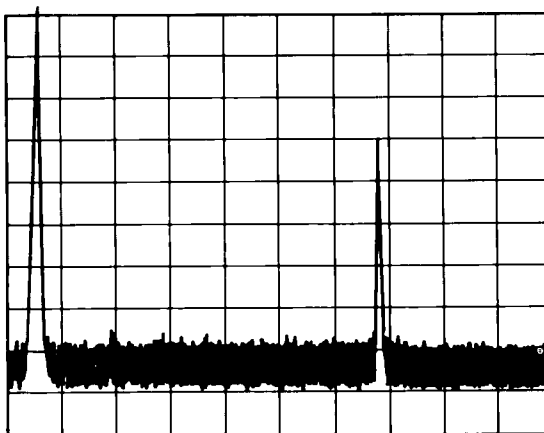

Figure 5-60. Squegging Displayed on Spectrum Analyzer
41. Using the [▲] key on both the DUT and the LO, step through Band 2 observing the spectrum analyzer display at each step. There may be signals due to mixing products, and/or squegging. Mixing products will appear as low level signals. Squegging signals will appear as a higher amplitude signal as shown in Figure 5-60. If squegging occurs, adjust A24R5 (X2C) slightly CCW to eliminate the squegging. Note, if the control is adjusted and there is no effect on the signal, the signal is probably a mixing product.